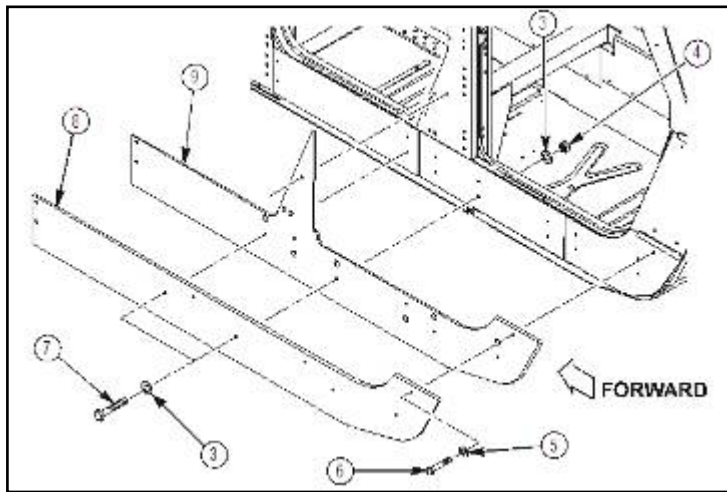

Figure 27b.
4. Install 6435008-01M1 or 6435008-200M1 left rocker panel IED overlay (8) and existing left side rocker panel aluminum overlay (9) with two 4397001-072 capscrews (7), four 4397005-014 washers (3), and two 4397064-006 locknuts (4) as shown in figure 27b. Do not tighten locknuts (4) at this time.
5. Apply 8030-01-025-1692 sealing compound to threads of one 4397000-016 capscrew (6). Refer to figure 27b.
6. Install 4397000-016 capscrew (6) and 4397005-010 washer (5) as shown in figure 27b. Do not tighten capscrew (6) at this time.
22. Tighten two locknuts (4) to 37 lb-ft (50.2 N·m) and one capscrew (6) to 6 lb-ft (8.1 N·m). Refer to figure 27b.